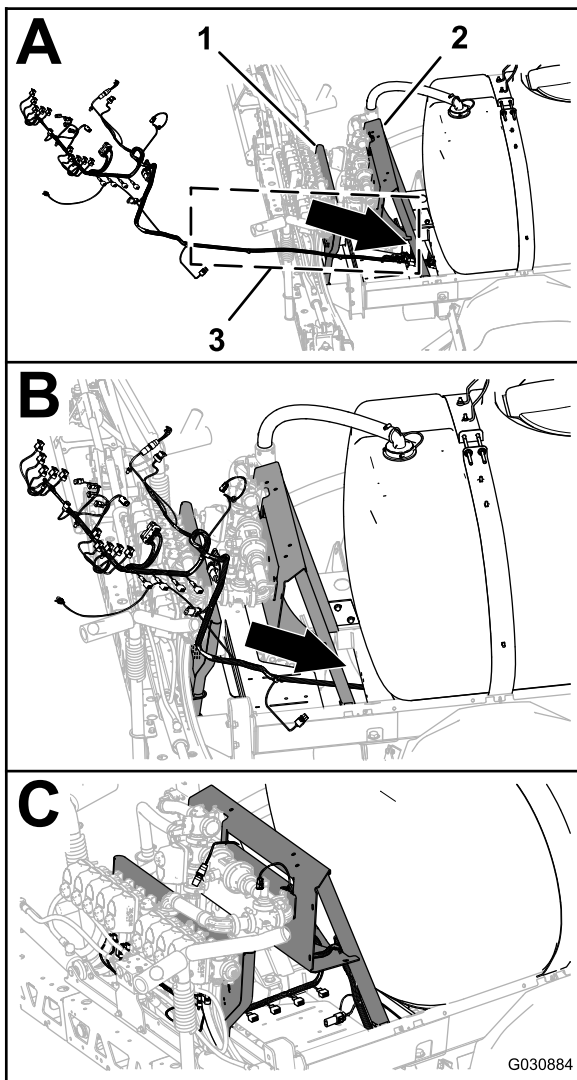

Figure 111
- Route the 165 cm (65 inches) branch and the 203 cm (80 inches) branch of the new electrical harness between the valve mount for the 10 sprayer valves and right support for the manifold mount (Figure 111).